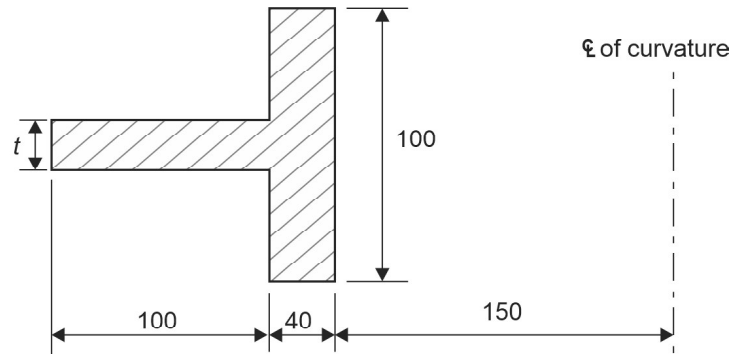

Fig. M1.11
b. Determine the value of thickness t in the T-cross-section of a curved beam shown in **Fig. M1.11** such that the normal stresses due to bending at the extreme inner and outer fibers are numerically equal. **(15 Marks)**